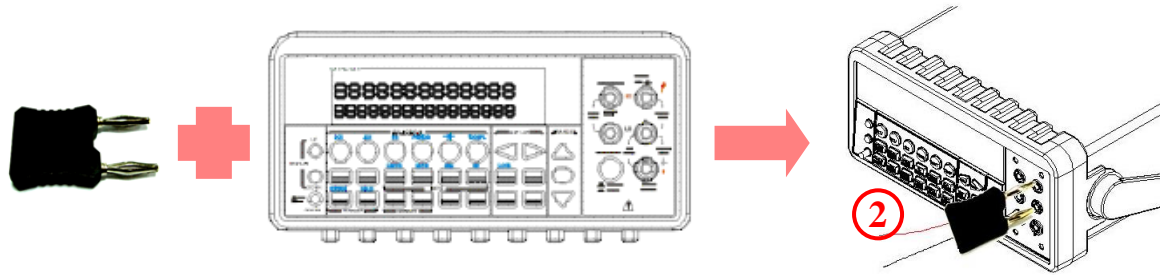

Figure 3-12
- ① Use terminals switch to select terminals on the front panel.
- ② To measure thermocouple must be via thermocouple adapter and the low thermal patch leads as shown in **Figure 3-12**. (When the mentioned modules are well connected as the following figure, please go to the next step.)
- ③ Configure the thermocouple type and unit using CONFIG + SHIFT + TCOUPL(TEMP), such as K TYPE and °C. When ready, press ENTER button.
- ④ Press SHIFT + TEMP buttons.
- ⑤ Take the reading on the display.